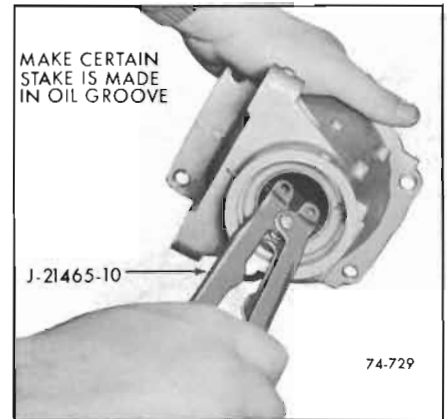

Figure 74-729
c. Using J-21465-10 stake bushing in oil ring groove. See Figure 74-729.